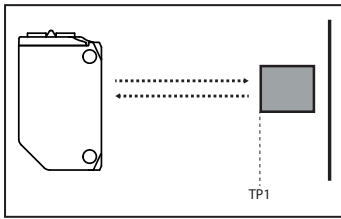

Fig. 3: Sensor - object
- ▶ Align the diffuse reflection sensor to the object (fig. 3).